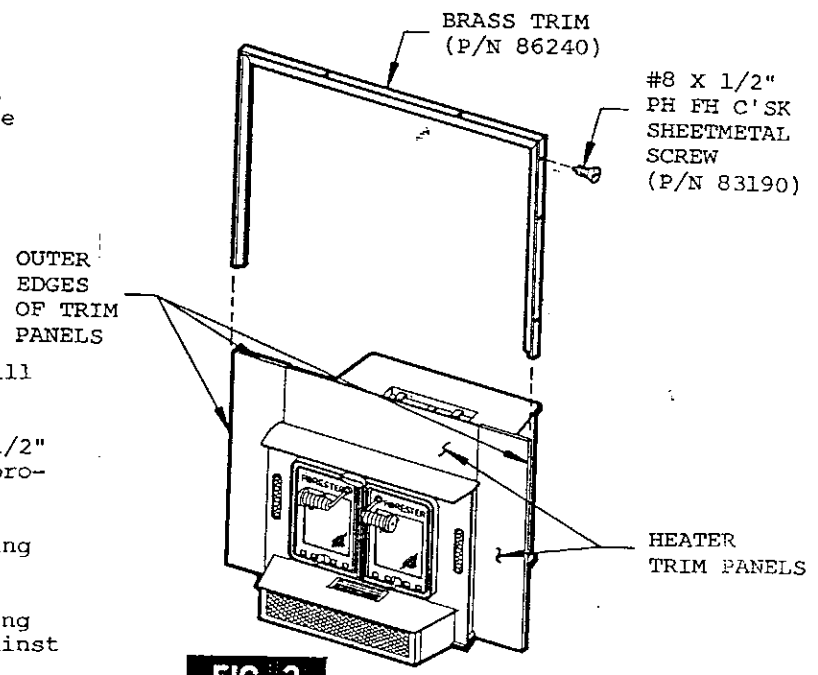

FIG. 3
3. Place brass trim over the outer edge of the trim panels as shown in Figure 3. Then mark (8) hole locations on trim panels.
5. Secure brass trim to trim panels with (8) #8 X 1/2" long brass flathead sheetmetal screws that are provided.